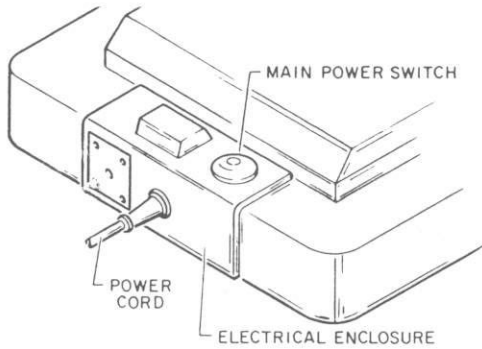

Figure 2-1. Main Power Switch
- b. Depress "Main Power ON/OFF" switch on the top of the electrical enclosure. See figure 2-1. The green Power On indicator light on the posturing control unit should now be illuminated.